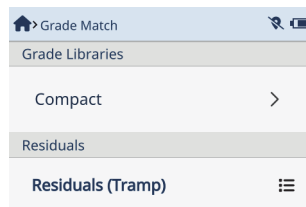

Figure 2-67 Grade Library section of Grade Match screen
The **Libraries** section of the screen, accessed from the **Grade Match** icon, enables you to select, load, and edit one or more grade libraries (see Figure 2-67 on page 81).
1. Tap the list button () in the **Libraries** section of the screen (see Figure 2-67 on page 81).